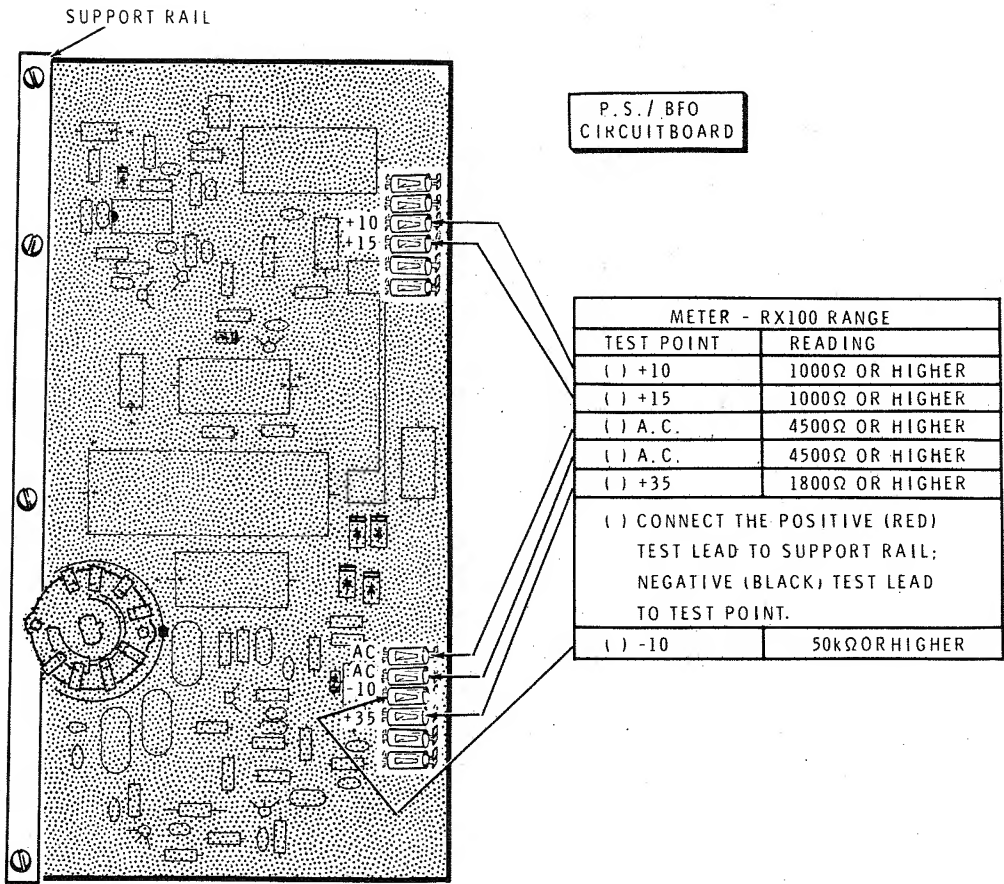

FIGURE 1
- ( ) Position the power supply/BFO circuit board as shown in Figure 1.